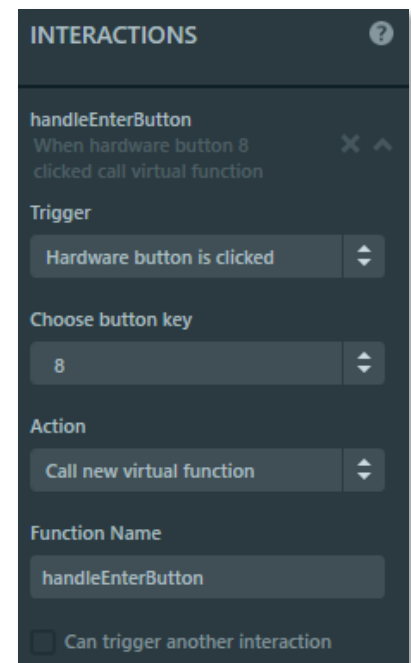

Figure 39
1. An interaction was created in TouchGFX Designer in which the Enter button triggers, not a screen transition, but a virtual function called `handleEnterButton()` (see Figure 39). This virtual function is hand-coded, as described in a later step, and it ultimately handles the transition to the appropriate screen.
- Next, the virtual function `handleEnterButton()`, called out in Figure 39, was added to the appropriate source code files. Specifically, its definition was added to `MarlinDemo4_3Inch \ TouchGFX \ gui \ src \ mainmenu_screen \ MainMenuView.cpp` as follows: